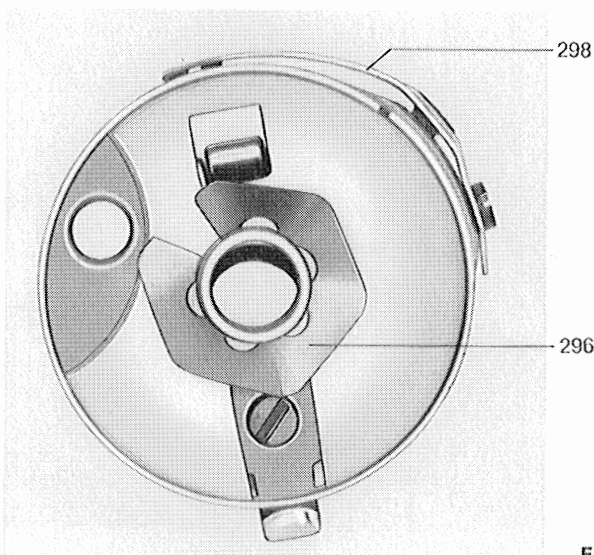

Fig. 47
- Use bobbin case upper part with brake disk 296 (fig. 47). The purpose of said disk is to avoid an after-running of the bobbin when the thread in unwound by jerks. For checking the braking effect on the bobbin, ensure when regulating the tension spring 298 that the tension of the lower thread is not too tight.